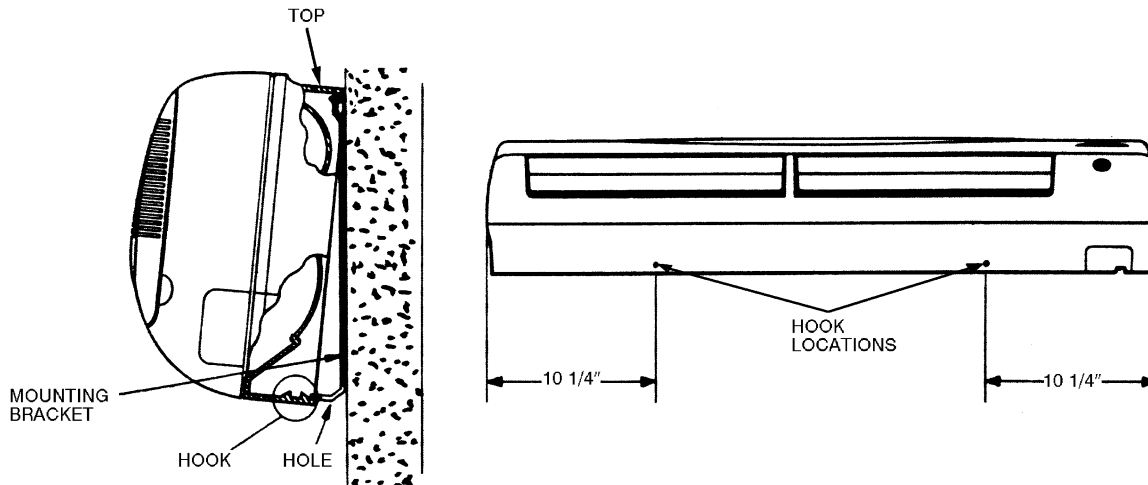

Fig. 16 — Mounting Unit to Bracket
1. Hook the fan coil unit onto the top of the mounting bracket. See Fig. 16.
2. Snap the fan coil unit onto the mounting bracket as shown in Fig. 16.